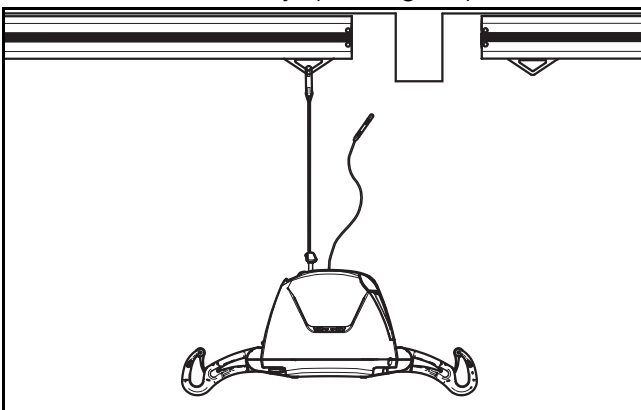

Fig. 21
- 4) Do not stop until the lift has completely transferred beneath the trolley on the other rail. Make sure that the extension strap is completely tightened before unhooking the lift from the first trolley. (see Fig. 21).